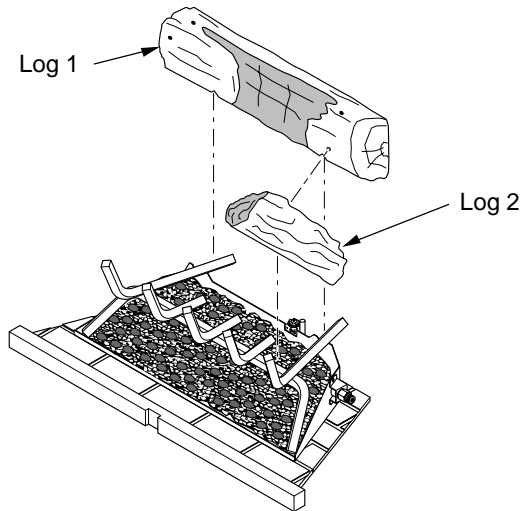

Figure 25 - Installing Logs 1 and 2
1. Place large back log (log 1) onto grate making sure notches rest over grate (see Figure 25).
2. Place log 2 onto front right side of grate. Gently insert peg on back of log 2 into hole on right front of log 1 (see Figure 25).